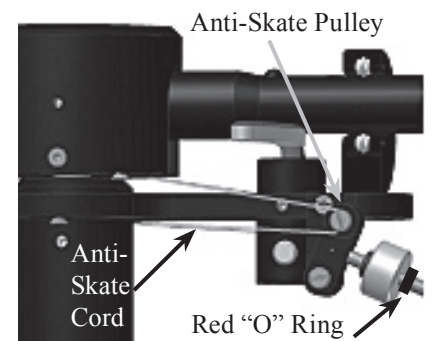

Figure 12
- Position the Anti-Skate Cord over the Anti-Skate Pulley. Refer to figure 12. Carefully remove the Red Color "O" Ring from the shaft of the Anti-Skate Weight